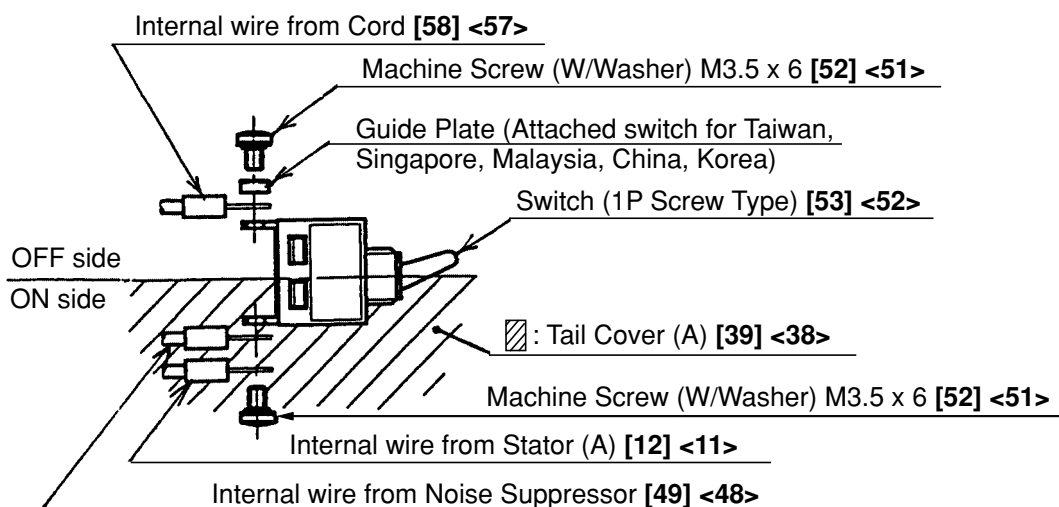

Fig. 8
- (7) Connect the internal wires of Stator (A) [12] <11> correctly as shown in Fig. 8 and Fig. 9.